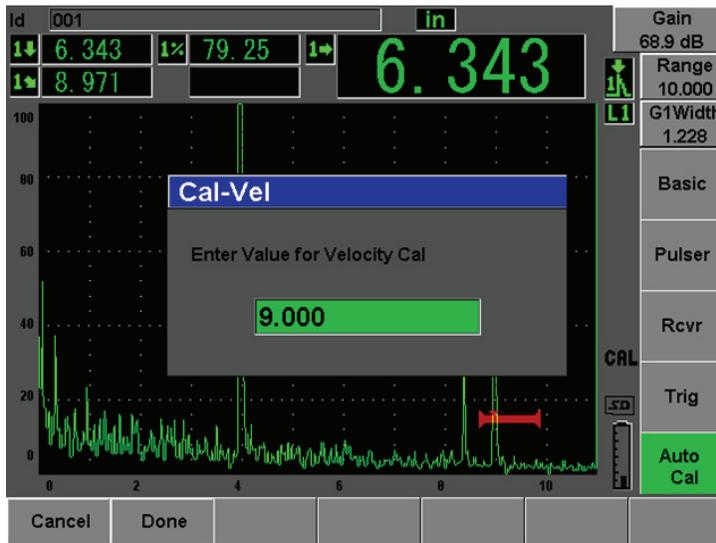

Figure 10-22 Example of a gated signal for velocity calibration
8. Use the **[GATES]** key to position gate 1 so that the second echo reflection from the arc of the block is within the gated region. This reflection should be close to 9 in. (225 mm) [see Figure 10-22 on page 180].